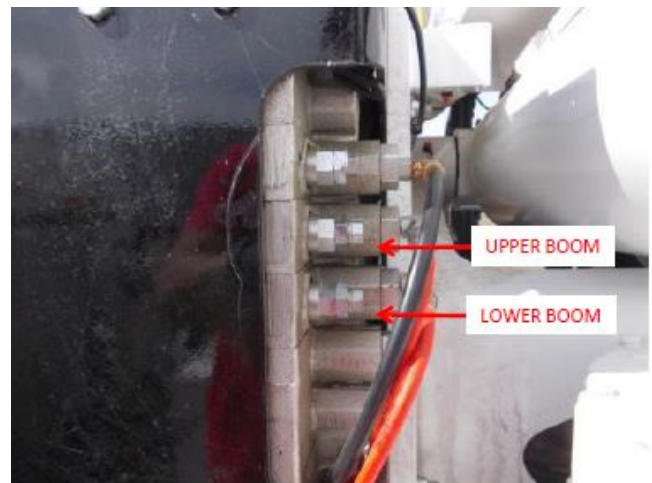

FIGURE 2
Loosen the jam nut and adjust the pressure compensators on the upper and lower boom sections so that two (2) threads are showing on the adjustment plug. Tighten the jam nut adjustment. **Figure 2**